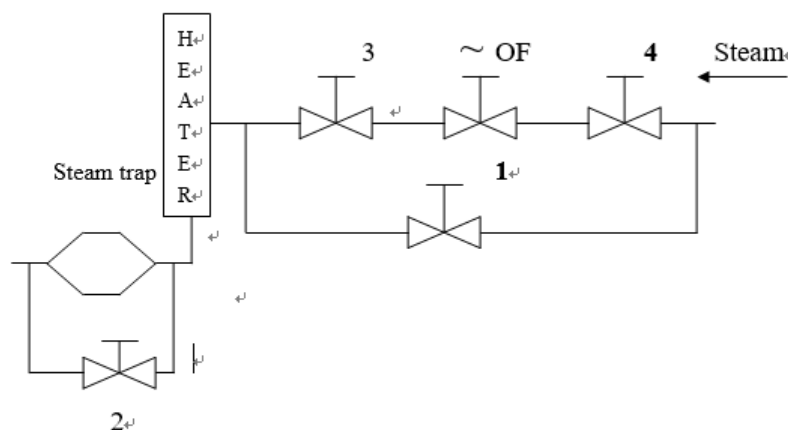

Figure 1-1
4. Turn off the cut-off valve (see Figure 1-1) "1,2" to open the bypass valve, and open the trap bypass valve in the pipeline, discharged sewage and garbage, and then in the opposite order, turn off the bypass valve 1, open cut-off valve 3,4, then put the manual, automatic switching device in the manual device, Press the heating button switch and repeat it several times. Check the operation of the solenoid valve from the bypass valve, if it is found that the solenoid valve does not open or close, it should be checked immediately whether there is garbage or welding slag at the ends of the solenoid valve. After cleaning, the test will be carried out until no abnormal phenomenon can be put into use and turn off bypass valve 2.